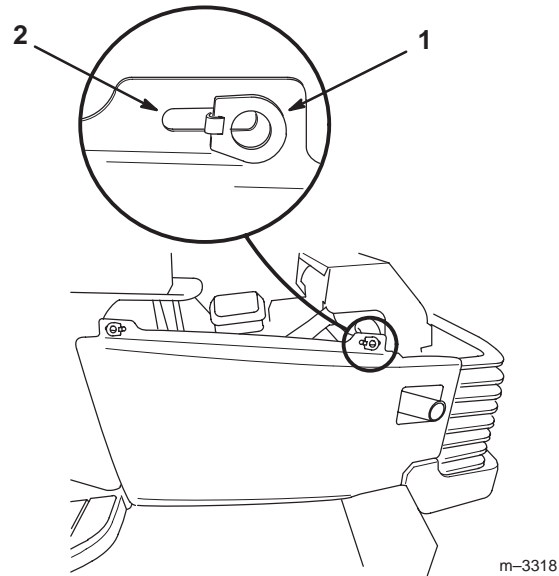

Figure 3
3. Lift up and twist each of the two side panel latches  $90^\circ$ , or until they line up with the open slot (Fig. 3).